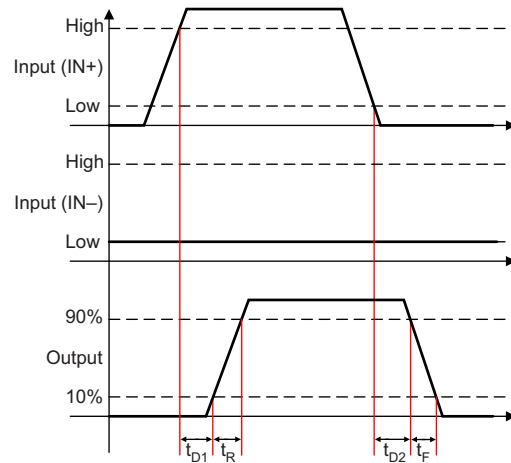
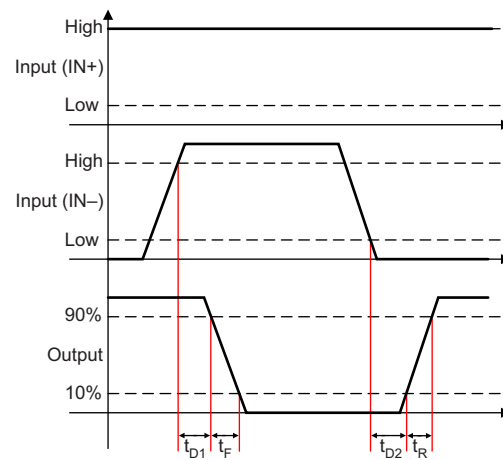

**Figure 1. Noninverting Configuration
**Figure 2. Inverting Configuration
(1) See Figure 1 and Figure 2 timing diagrams.